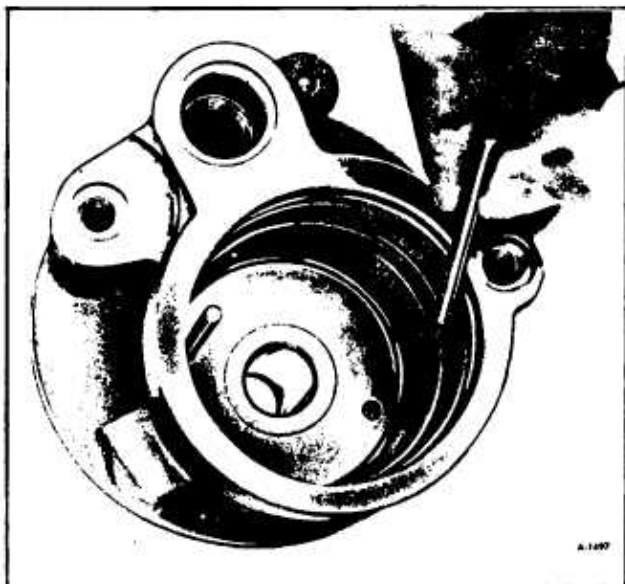

Figure 15—Removing Dowel Pins From Housing
12. Remove rotor and thrust plate from shaft and both dowel pins from housing. (figure 15).
3. Clamp end hub of housing in vise in same position as before and insert both dowel pins. (figure 15). Do not over tighten the vise—damage to the bearing could occur.